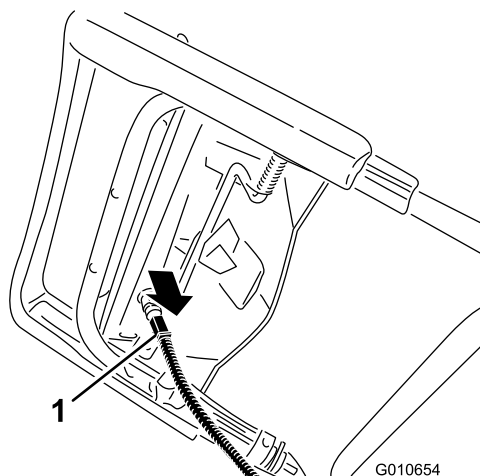

Figure 3
8. Disconnect the ignition connector on the old wire harness from the ignition switch on the underside of the upper handle (Figure 3).